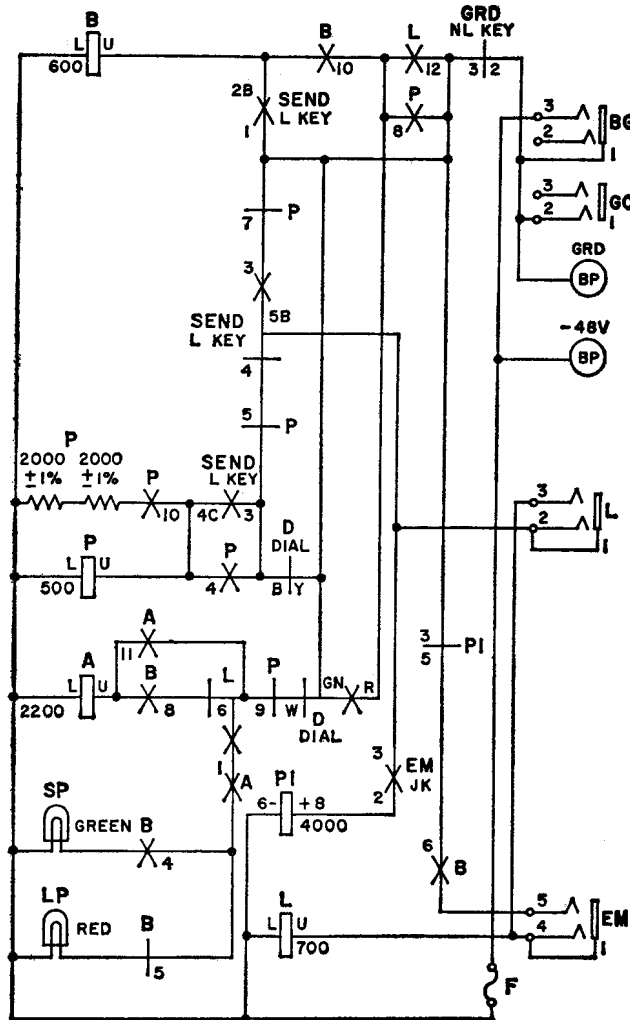

Fig. 4 — Dial Test Set — Schematic Diagram
11.02 In these tests the dial test set is connected to the monitor equipment so that it simulates the external loop. Dial pulses are transmitted from the test set to the monitor. Verification is made by observing relays or by means of lamps located on the equipment and dial test set. See Fig. 4 for the schematic diagram of the dial test set.